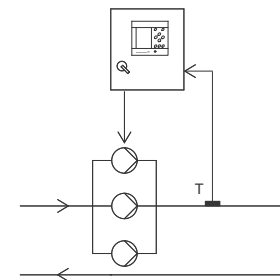

Fig. 11 Flow-pipe temperature
- Flow-pipe temperature with one sensor. See fig. 11.